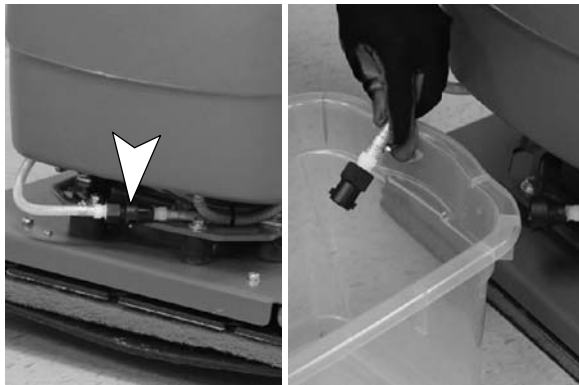

FIG. 59
3. Disconnect the black connector fitting at the scrub head and place the hose into a bucket (Figure 59). To access the connector fitting, you may have to remove the front cover from the machine.